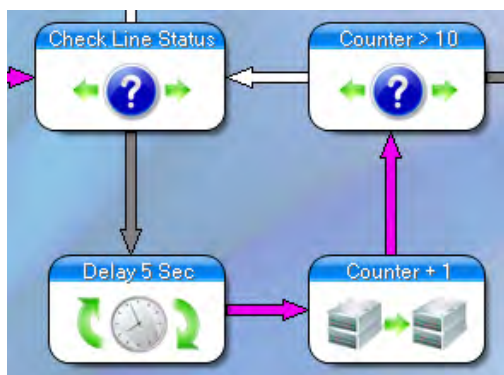

**Figure 7 - Transaction Diagram for the First Three Steps**
**Step 3** is a delay block that waits 20 seconds followed by a Conditional Branch Block to check the Modem Status. The diagram now looks like Figure 7.